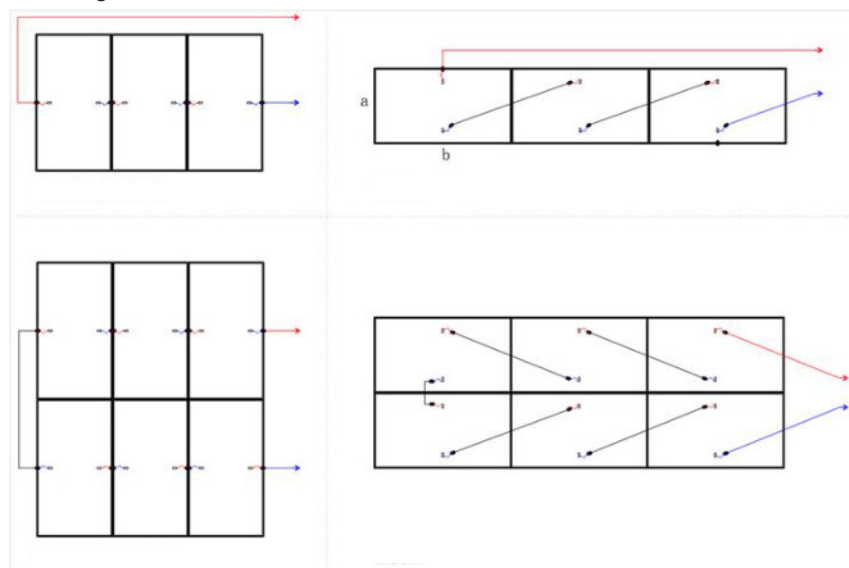

Figure.7 Common arrangement of modules
- At present, the PV module arrangement is more common in single vertical row, double vertical row, single horizontal row, double horizontal row, as shown in Figure 7: